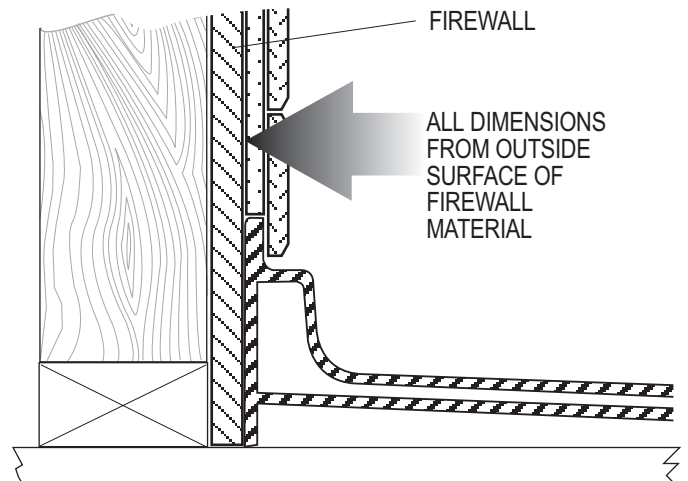

Fig. 1b
**NOTE:** If a firewall is required, roughing-in dimensions will be from finished surface of firewall material. refer Fig.1b